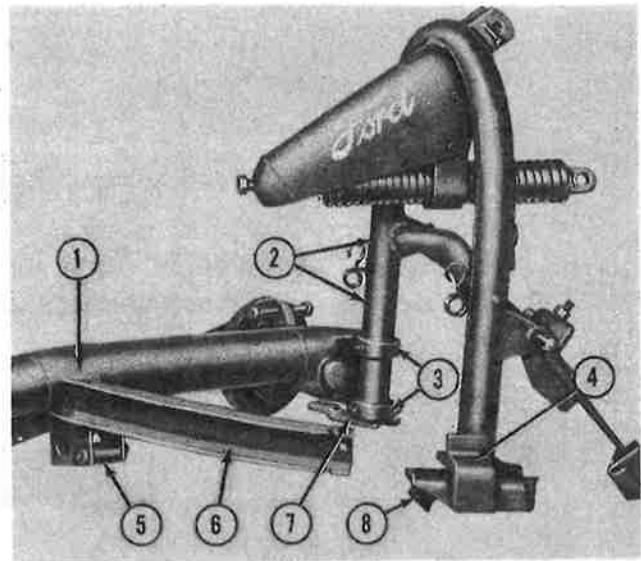
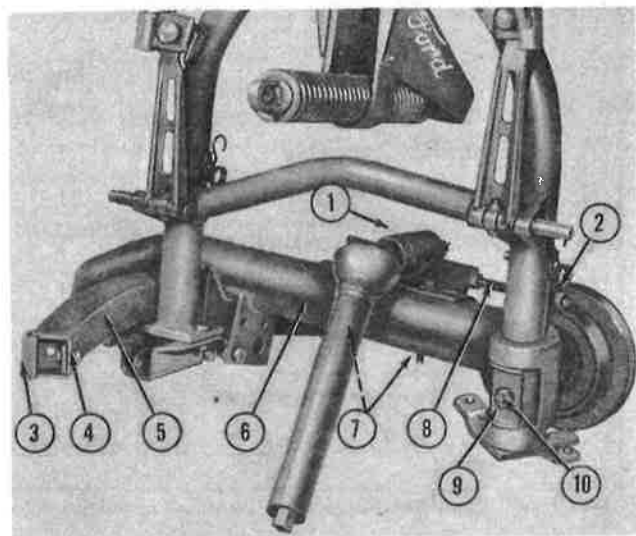

Figure 16
Figure 17
3. Position the lower frame (1), Figure 16, as shown; and insert the left side of the upper frame (2) through the yoke (3).
4. Thread the bellcrank (7) as far as possible into the left leg of the upper frame (2), so it is free to pivot in the approximate position shown.
5. Attach the breakout wedge (9), Figure 17, to the left leg of the upper frame with the special cap screw as shown. Do not tighten the cap screw at this time.
6. Latch the mower breakout and position the wedge (9) as far to the right as possible, toward the P.T.O. drive in Figure 17. Tighten the cap screw.
7. Engage the lower edge of the breakout guide (6), Figure 16, under the welded plate (4) on the upper frame and position the frames as shown in Figure 17.
NOTE: Do not attempt to secure the breakout latch (8) on the roller (5), Figure 16, until the cutter bar is attached.
8. Attach the breakout guide stop (3), Figure 17, to the end of the breakout guide (5), as shown; and
- a. Loosen the belt adjusting bolt jam nut (2), Figure 17, and turn the adjusting bolt (8) in sufficiently to permit easy installation of the drive shaft housing (1).
- b. Position the drive shaft housing (1), Figure 17, on the lower frame (6) as shown. Place a
NOTE: At this point, the cutter bar safety breakout latch (8), Figure 16, should be engaged on the roller (5). To do this, check the roller to be sure it turns freely, start the tractor engine, and lower the cutter bar into operation position. Then, back the tractor up until the breakout assembly is engaged and turn off the tractor engine. If the breakout spring is too tight, consult the breakout spring adjustment on page 12. When the breakout is latched, the retaining wedge must be repositioned. Loosen the cap screw (10), Figure 17, and slide the retaining wedge (9) as far to the right as possible (toward the P.T.O. drive in Figure 17). Tighten cap screw to secure wedge.